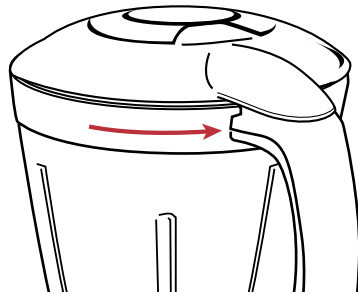

Fig 21
6. Turn the holding lip to the right, the holding lip should be flush with the top of the jug handle, see Figure 21.